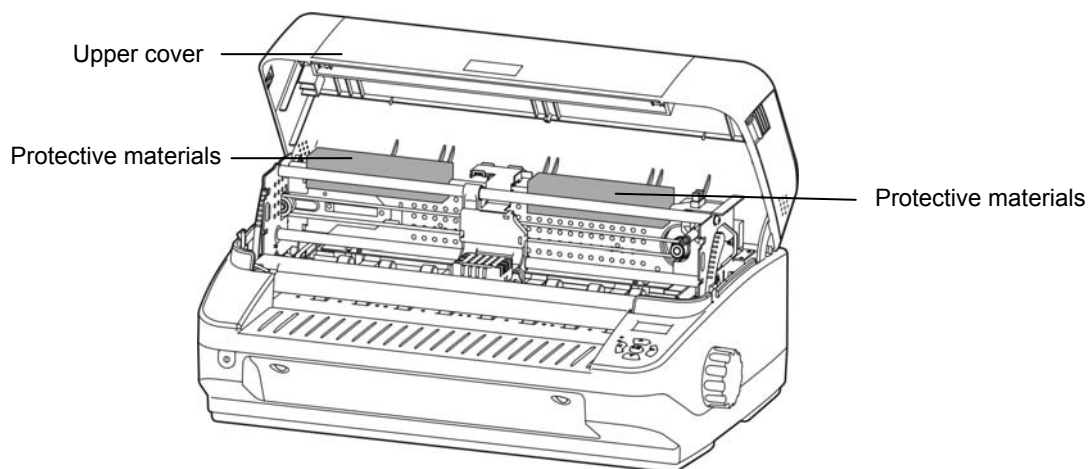

Figure 2-2 Unpacking protective materials
2. Save all the original packing materials, so that it can use when transporting the printer (show as figure 2-2).